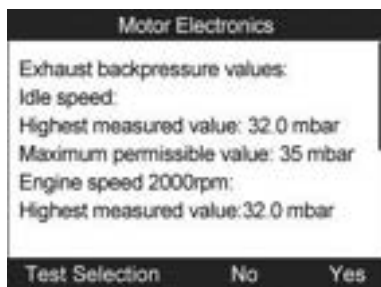

Figure 11.46
- f) The tool will submit a summary report for your confirmation (Figure 11.46).